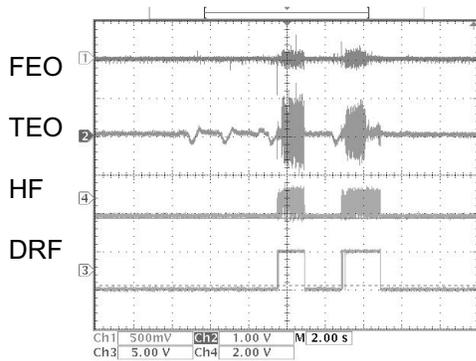

Fig. 2 DISC discrimination, adjustment
- \* “06 Adj” is displayed, and discrimination of DISC size 8 cm/12 cm, discrimination of DISC reflectance (CD, CD-R/CD-RW), adjustment of focus, tracking offset, and EF balance will be performed. (Adjusted values are not displayed: Refer to Fig. 2, 3)